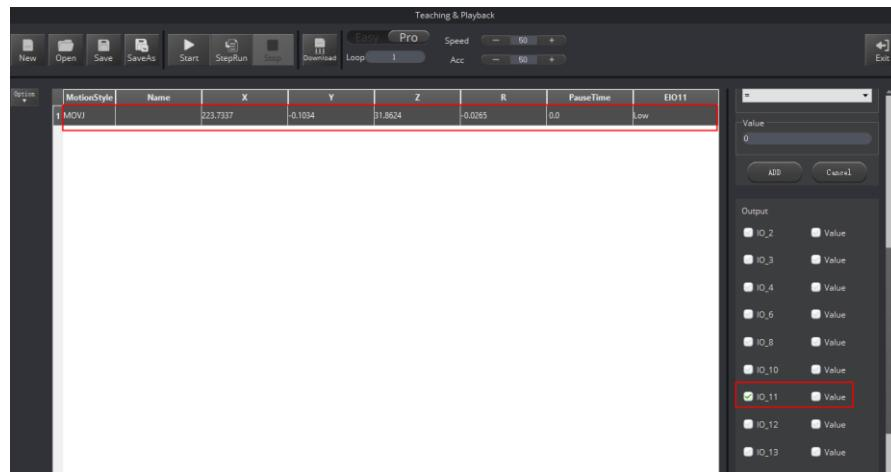

Figure 5.181 Saved point
**Step 2** Select **IO\_11** on the Output pane, and click **+Point**, as shown in Figure 5.181.